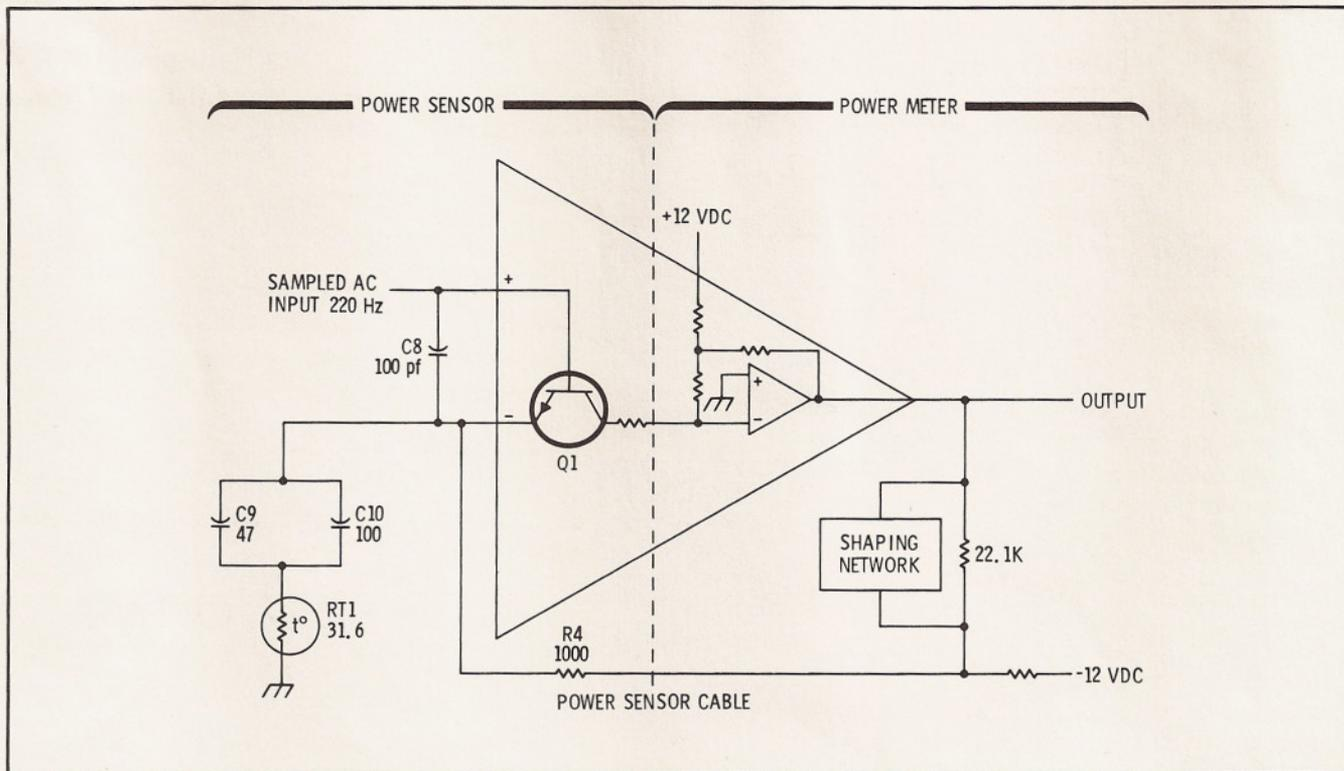

Figure 5. Operational Amplifier
53. The output of A2U1 is amplified about 700 times by an operational amplifier made up of A2Q1 and the first amplifier stage in the power meter. Figure 5 is a simplified diagram of the complete operational amplifier.